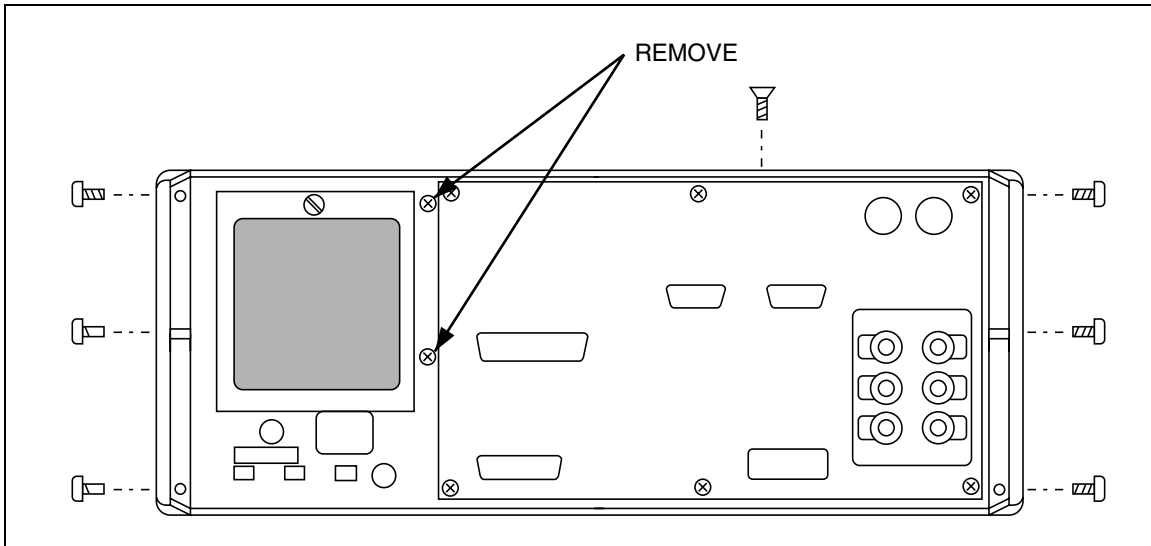

Figure 4-2. Rear Panel Removal
Detach the Rear Panel by removing the six hex head screws (three on each rear handle side) and the two Phillips head screws found along the side of the Fan Assembly. Refer to Figure 4-2 for screw locations.
7. Detach the Rear Panel by removing six hex screws (three on each rear handle side) and two screws near the fan filter on the Rear Panel. See Figure 4-2 for screw locations. Then grasp the handles and gently pull the Rear Panel away from the frame.